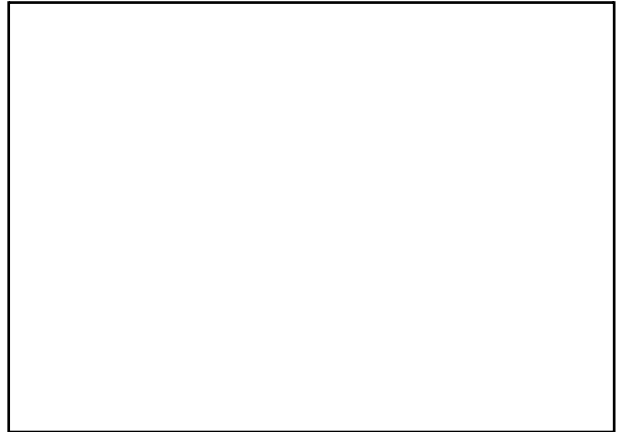

Fig. 2
- Place a recipient under the drain plug (arrow, Fig. 2). The drain plug opens when the draining hose is screwed onto the valve (arrow, Fig. 2).
- Drain off diesel fuel at the drain plug (Fig. 2), using the oil draining hose. See "Draining hose for oil changes".